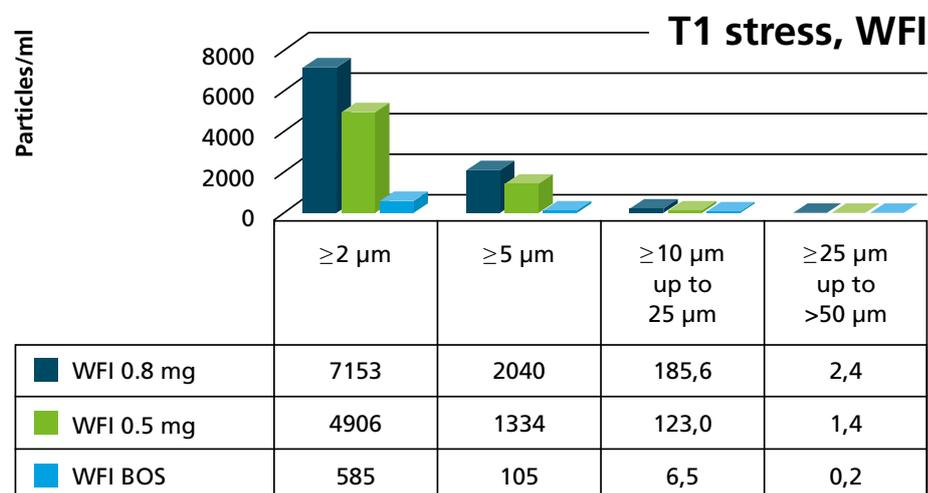

Figure 4: Sub visible silicone oil particles $\geq 2 \mu\text{m}$ WFI solution.
significantly by fixating a certain amount of the silicone oil emulsion on the inner walls whilst still maintaining functionality. Figures 4 & 5 show particle measurements derived from a recent study comparing oily (0.5 and 0.8 mg/syringe) and baked-on siliconised syringes. WFI and a Tween 80 0.03% solution were chosen as model liquids. The samples were stoppered (fluoropolymer-coated plunger stoppers) and the number of silicone oil particles was determined according to EP 2.9.19 after one day of storage, three months storage and after three months under stress conditions to simulate a transport situation. Results shown are for the “after three month under stress” conditions.
Also in this case the appropriate plunger stopper selection is important regarding the final total silicone particle load. Figure 10 shows results from the same particle study as Figures 4 & 5 extended by ClearJect with needle syringes (CJ). The silicone oil amount per syringe was 0.8mg. A significant reduction compared to glass syringes can be observed, especially for particles below $10 \mu\text{m}$. This provides another reason to recommend the use of these syringes for silicone oil particle-sensitive protein therapeutics.